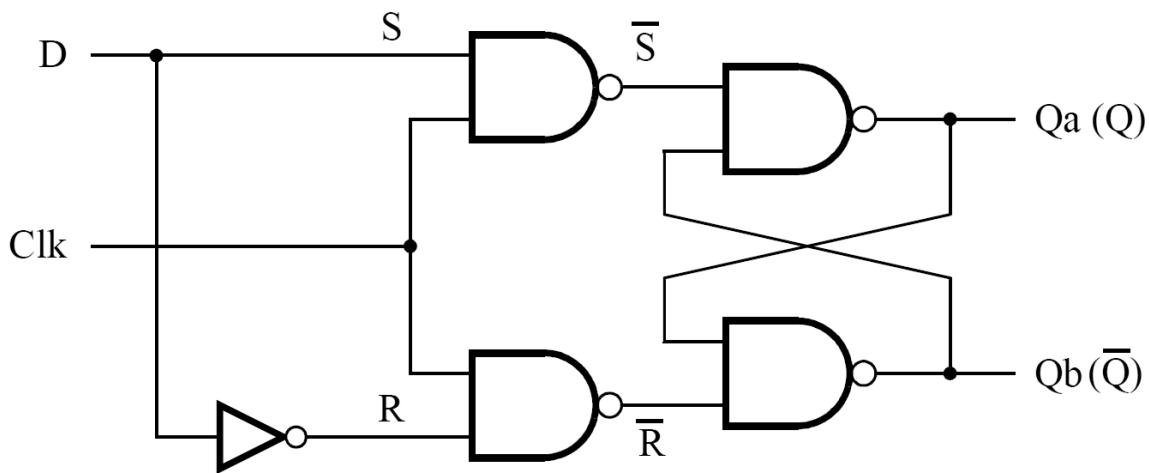
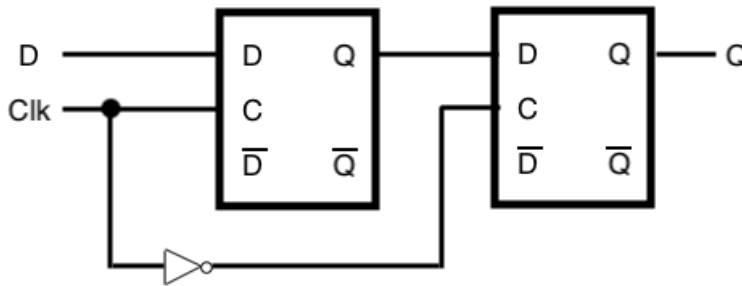

Figure 1: Circuit for a gated D latch.
Figure 2: Circuit for a master slave flip flop using gated D latches.
To explore the behaviour of latches, in this lab you will create a latch using *NAND* and *NOT* logic gates. Figure 1 shows the circuit for a gated D latch.
The most common storage element today is the *edge-triggered D flip-flop*. One way to build an edge-triggered D flip-flop is to connect two D latches in series, such that the two D latches use opposite levels of the clock for gating the latch. This is called a master-slave flip-flop, see Fig. 2.
1. In Logisim, build this gated D latch from Fig. 1 and the master slave flip-flop from Fig. 2, each in its own module. The flip-flop should be implemented using the module you create for the D latch, and the latch should make use of the logic gates available in the *Gates* component set. Some of you have noticed that there is a special Clock signal in the *Wiring* set. You do not need to use that for this part (you will in future labs). For now, just use the default input pin type for the *Clk* input signal (the one that you've been using up to this point). **(PRELAB)**